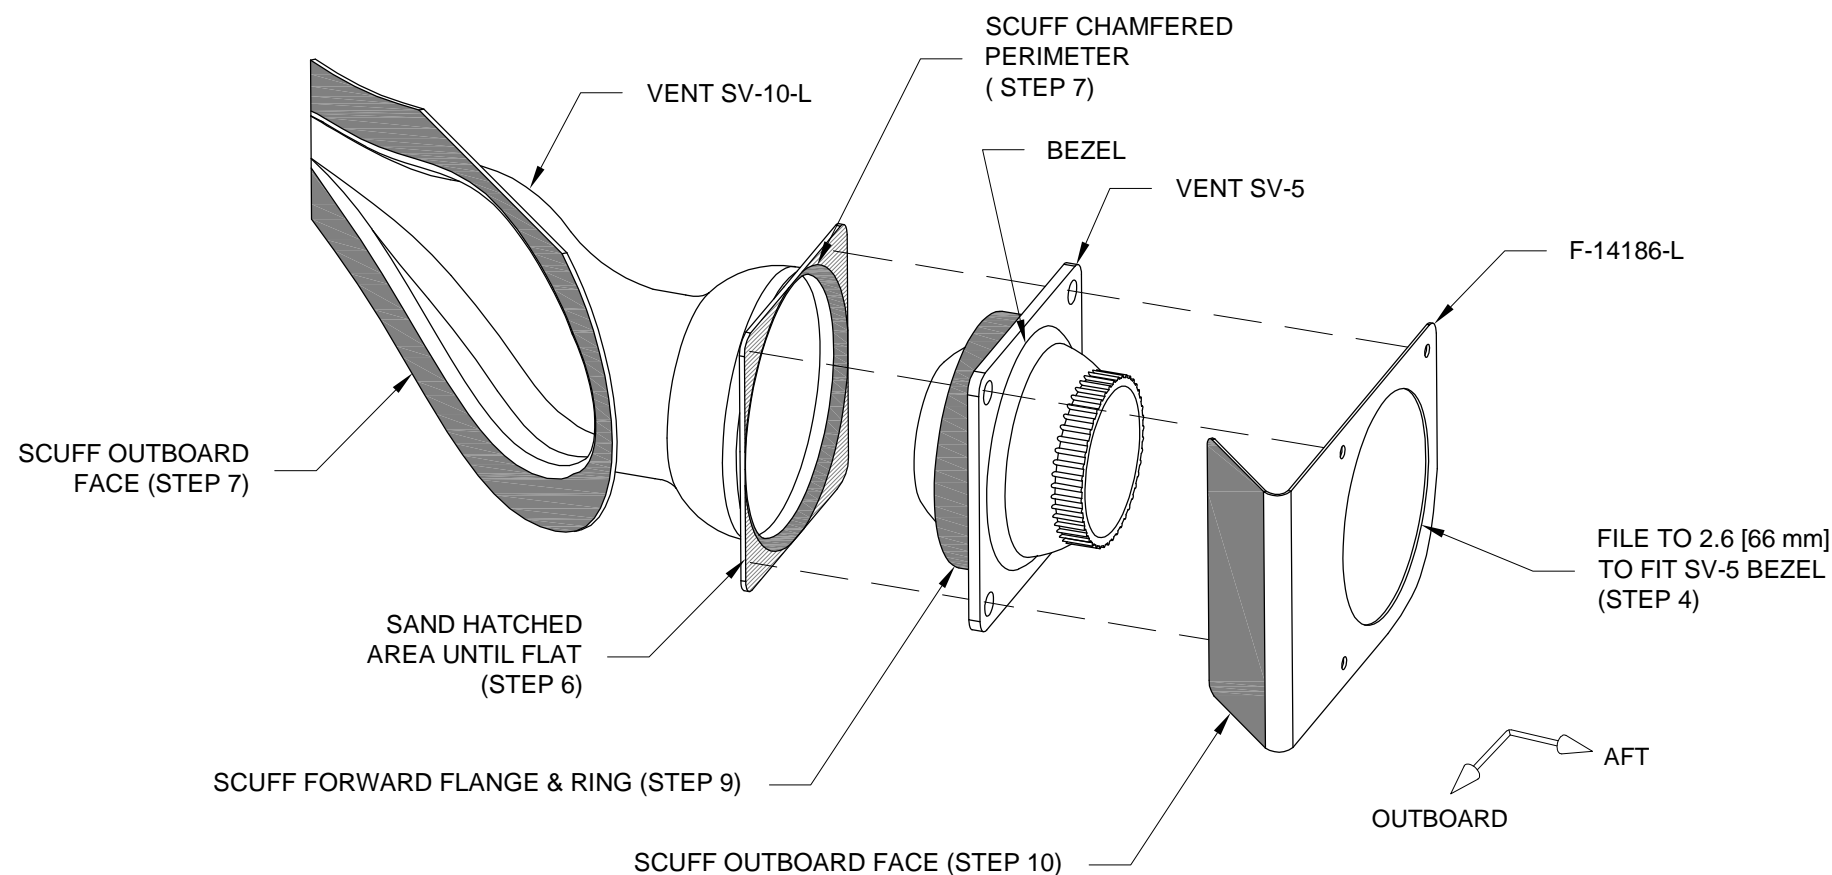

FIGURE 4: LEFT AIR VENT ASSEMBLY
Step 11: Clamp the Air Vent Assembly together as shown in Figure 4. Position the clamps inboard.